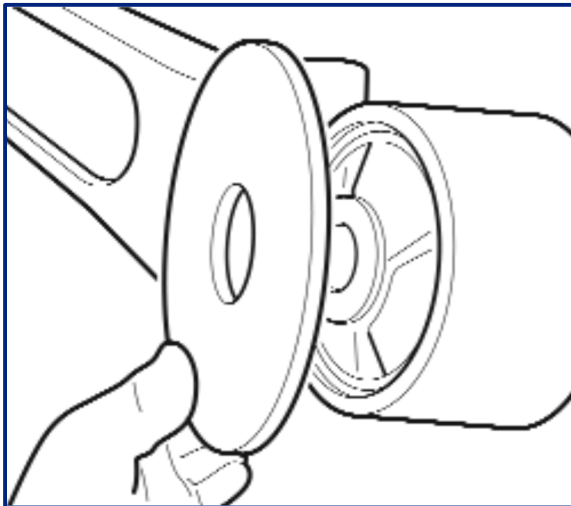

Fig 16
9. Remove the wear washers and the steel inner sleeves from the pivot bushes (Figs 16 & 17).